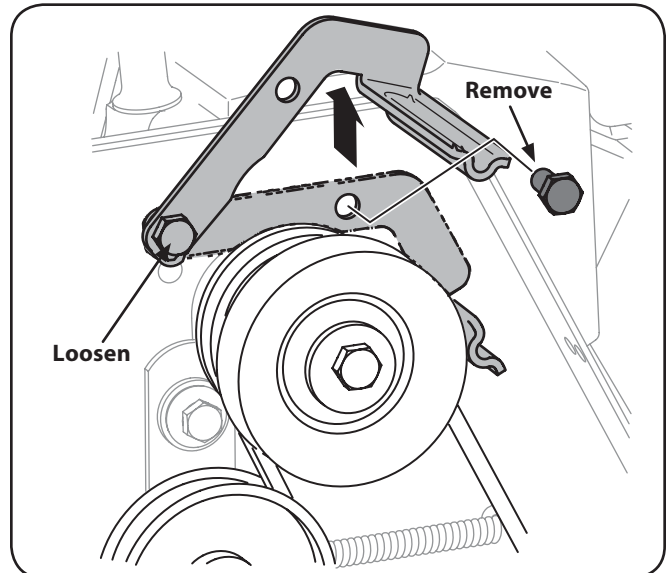

Figure 7-3
4. Loosen the bolt shown in Fig. 7-3 securing the belt keeper bracket and remove the other bolt. Push the belt keeper bracket up off the engine pulley. See Fig. 7-3.